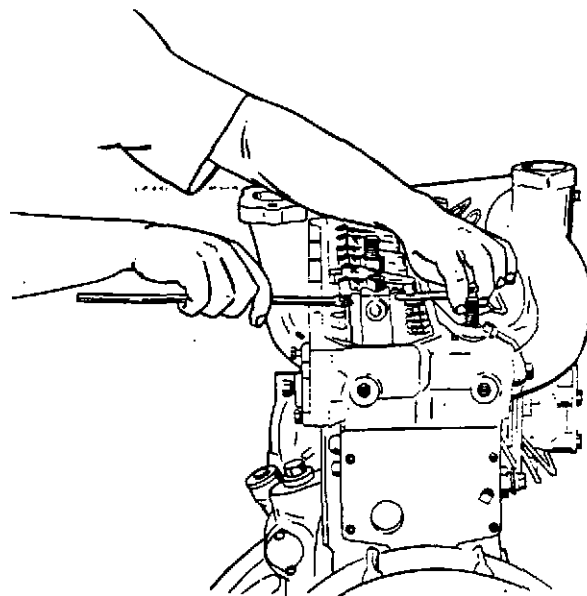

Figure 3-2. Valve Clearance Check and Adjustment
c. With the engine running at slow idle, check for 0.015 inch clearance between the rocker arm and end of the valve stem, using a feeler gauge as shown in figure 3-2.
d. If the valve clearance is incorrect, adjust the setting of the adjusting screw to provide the required clearance. Refer to figure 3-2. When properly adjusted, there will be a slight drag on a 0.015 inch feeler gauge with the valve in the unoperated position.